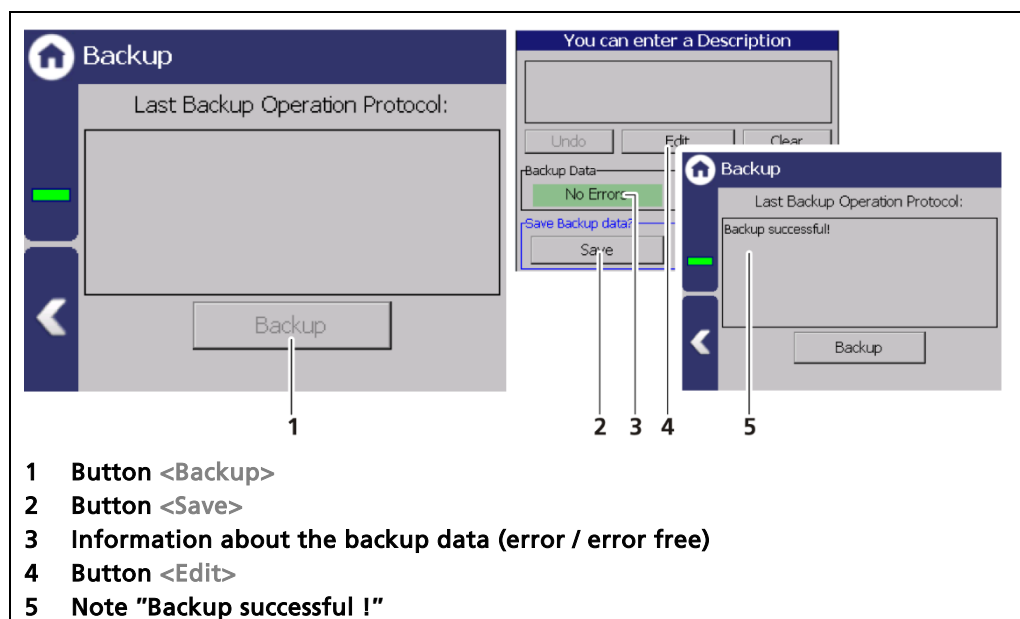

Fig. 133 Backup
2. The USB storage device is recognised by the system after a few seconds and the button <Backup> (Fig. 133, item 1) can be clicked.
3. Click on the button <Backup> (Fig. 133, item 1).
- ▶ The message "Error free" (Fig. 133, item 3) appears in the field "Backup data" for present and error-free backup files.
- 5. Click on the button <Save> (Fig. 133, item 4).
- ▶ The message "Backup successful!" appears after a successful copy process (Fig. 133, item 5).